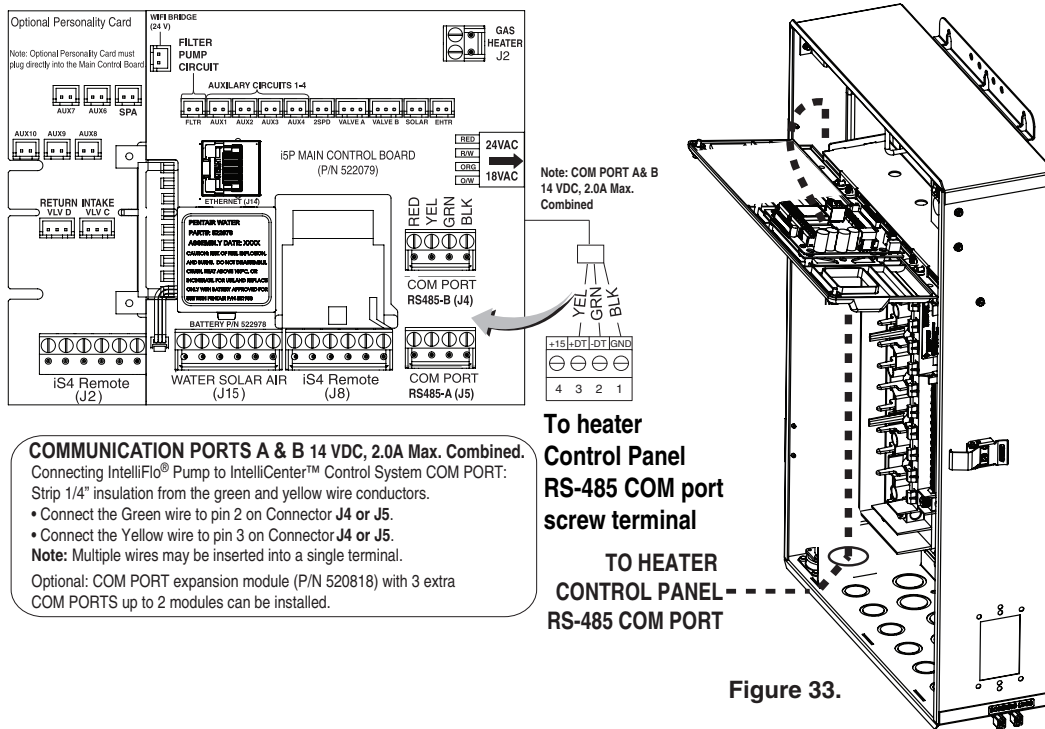

**Figure 30.**
2. Unlatch the front door latch and open the front door. Remove the two retaining screws from the High Voltage Cover Panel and remove the panel. See **Figure 30**.
- Secure the panel with the two (2) retaining screws. Close the front door and secure with the latch. See Figure 30 on page 38.